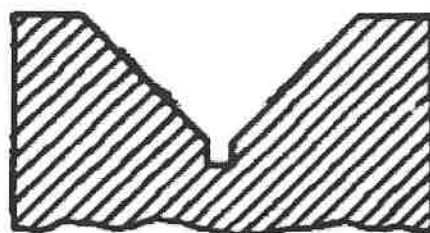

Figure Q1 V Block
- c) You are asked to measure the V block angle shown in Figure Q1. What is the instrument you are going to use for that? Explain the procedure used to measure the angle, supported by a neat sketch.